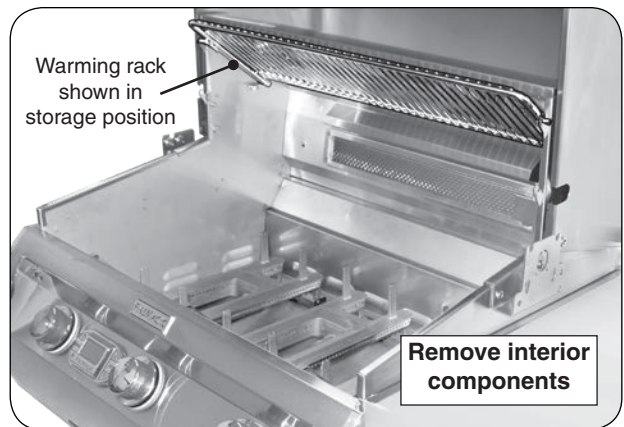

Fig. 31-1 Prepare grill for rotissing
1. Set the warming rack to storage position, remove the backburner cover and cooking grids (see Fig. 31-1).